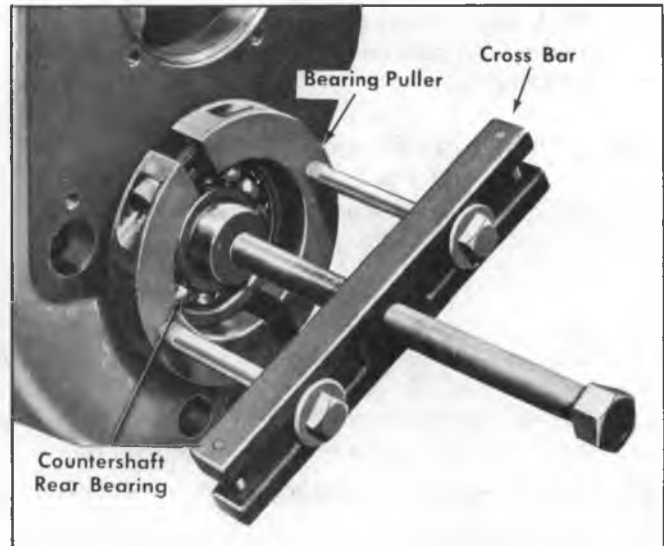

Fig. 5P-Removing Countershaft Rear Bearing
2. Using a suitable puller, remove countershaft rear bearing (fig. 5P).